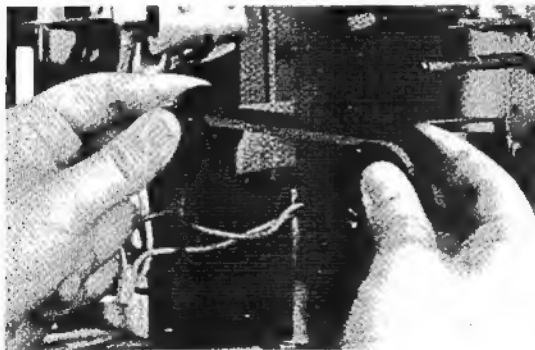

Figure 4
5. Hold ribbon as in Figure 4, sliding ribbon spools onto ribbon spindles. Replace cotter pins.